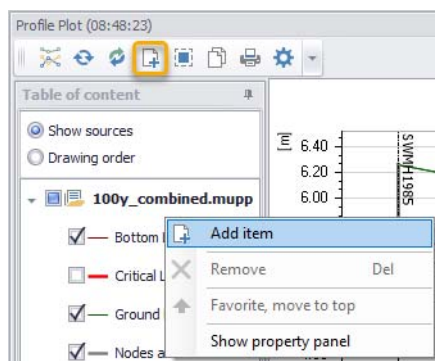

Figure 20.32 The 'Add item' tool on the Profile Plot window
- Add simulation results to a profile plot using the 'Add item' button on the Profile Plot window (Figure 20.32.). The option is also offered from the local context menu (i.e. right-click) on the left panel of the profile plot form. Alternatively, drag a result item (e.g. Link Water Level) from the list of result files in the 'Results' tree, and drop it in the table of content of the profile plot.